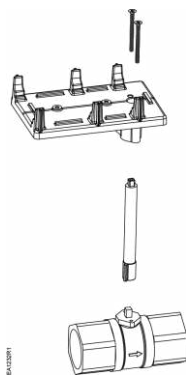

Figure 3.
1. Insert the ball valve bracket shaft through the bottom of the bracket. See Figure 3.
4. While holding the shaft in the appropriate orientation, assemble the bracket to the valve using the two M4 × 0.7 × 50 mm, or M4 × 0.7 × 53 mm screws, depending on your configuration. See Figure 3.